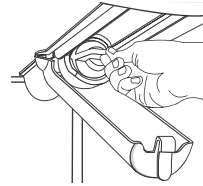

Fig.8 Filter housing and bypass cap
- b Remove the blue bypass cap and retain for later use (refer to figure 8).